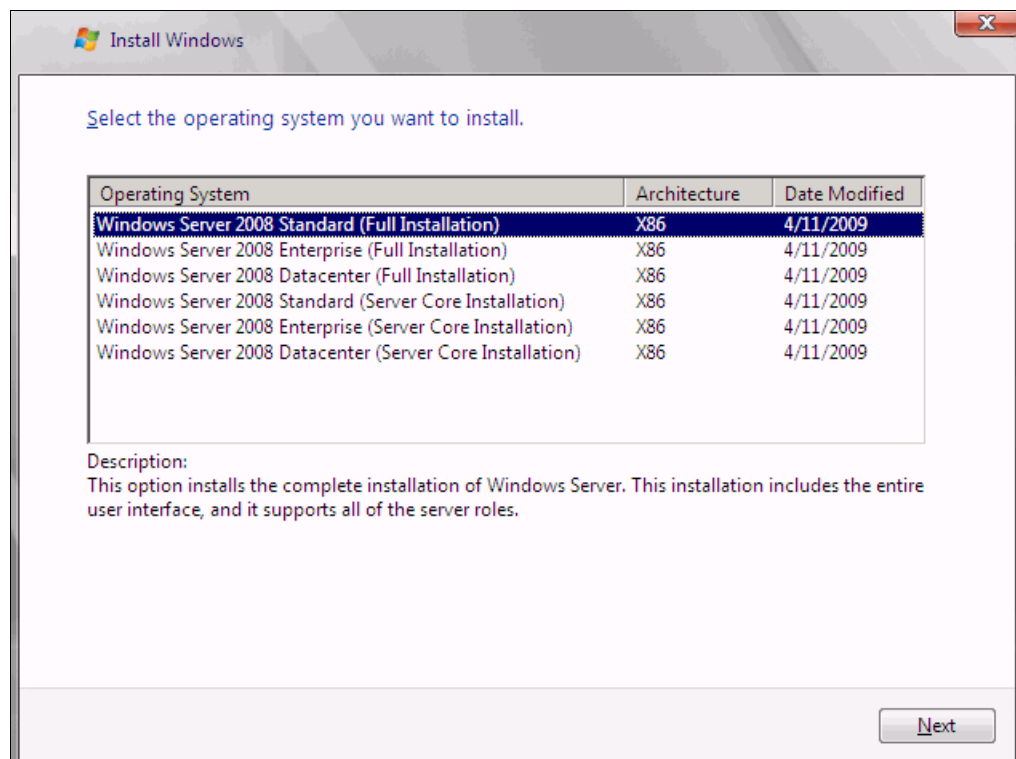

Figure 9-106 Selecting the operating system
13. Select the operating system that you want to install (Figure 9-106), and then click **Next**.